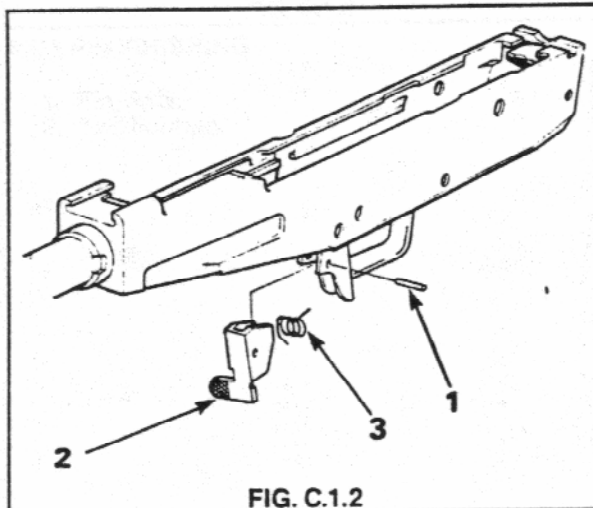

FIG. C.1.2
2. Drill out one of the heads of the magazine catch axis pin with a 5,00mm twist drill. Drive out the remains of the axis pin and remove the catch and the spring. See Fig. C.1.2.